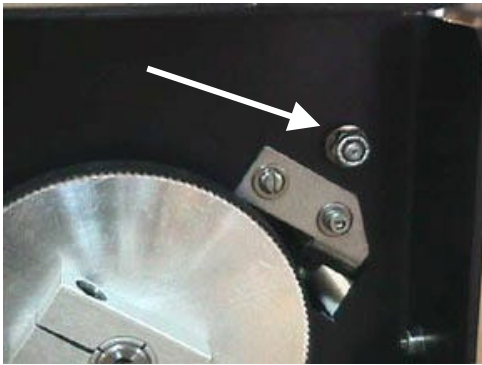

Fig. 3
- ∑ Loosen the cam follower using a 3/8 nut driver on the hardware located on the outside of the chassis frame, (See Fig. 3) and a screwdriver holding the body of the cam follower.